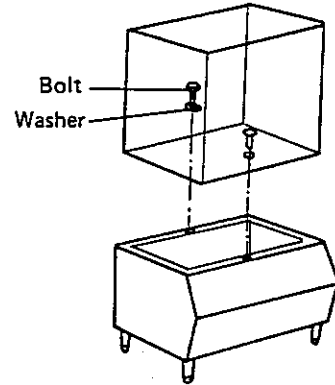

Fig. 13 Ice maker and bin combination
8. Fasten the storage bin and ice maker in the front and rear in the center with the 2 bolts and plastic washers provided (see Fig. 13).